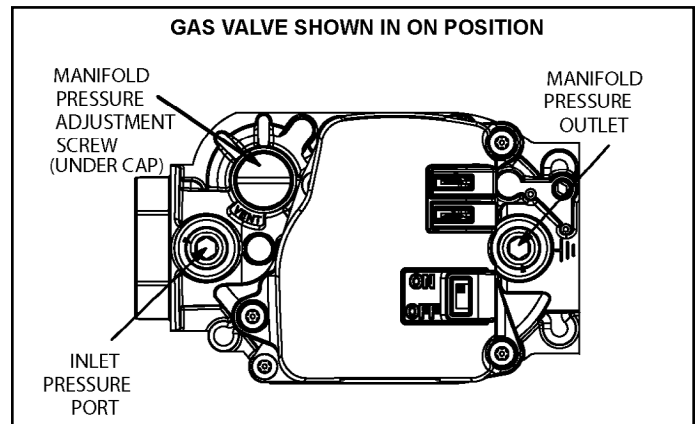

Figure 70.
See Figure 70
6. Move gas valve switch to OFF. See Figure 70.
8. Move gas valve switch to ON. See Figure 70.
When testing supply gas pressure, use the 1/8" N.P.T. plugged tap or pressure post located on the gas valve to facilitate test gauge connection. See Figure 70. Check gas line pressure with unit firing at maximum rate. Low pressure may result in erratic operation or underfire. High pressure can result in permanent damage to gas valve or overfire.